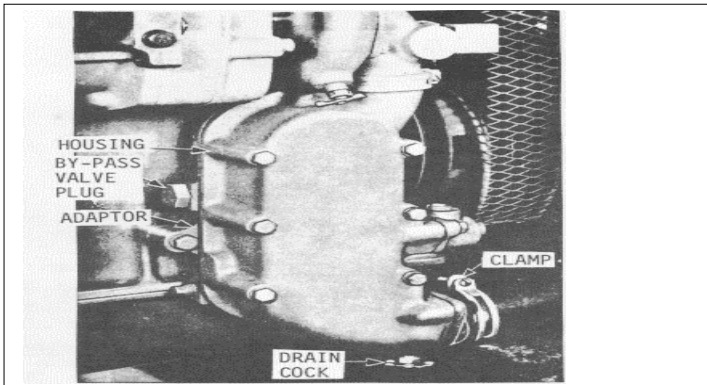

Fig. 1
On fan and radiator cooler engines, the lubricating oil cooler is usually located on the side of the engine just below the water pump (Fig. 1).
- (1) Drain the cooling system by opening the drain
- (2) valve (Fig. 1) at the bottom of the oil cooler housing.